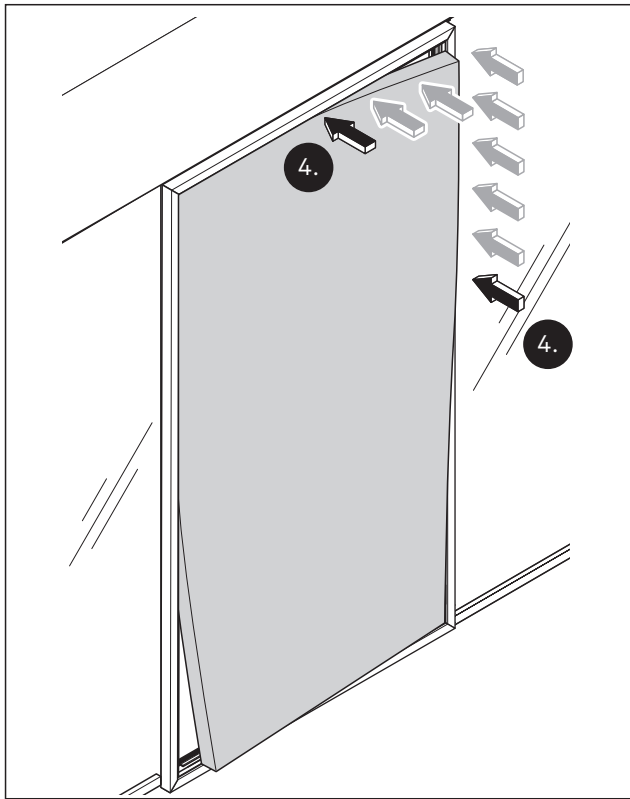

Fig. 40 Press the rubber piping at the top right into the groove from the center to the corner
4. Press the rubber piping at the bottom right into the groove from the middle of the profile sides outwards to the corner (Fig. 40).